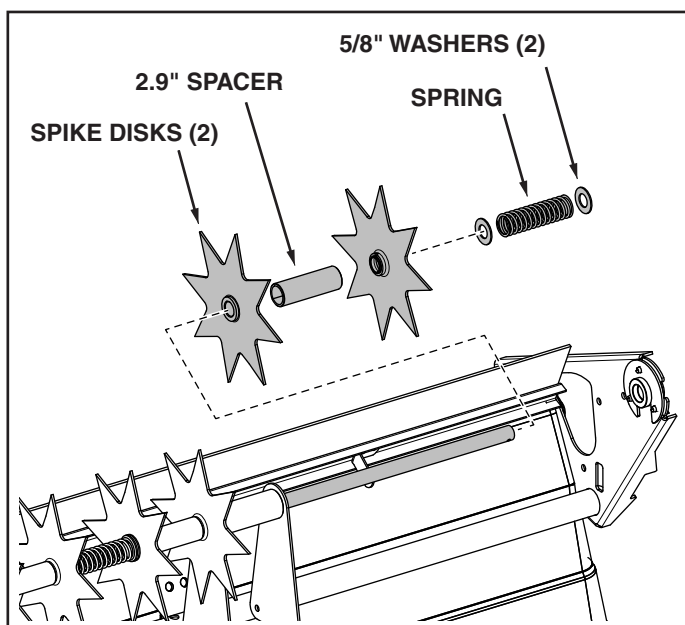

FIGURE 10
12. Assemble two spike disks and a 2.9" spacer onto the axle. The flat side of the disks should face away from the spacer. See figure 10.
13. Assemble two 5/8" washers and a spring onto the axle. See figure 10.